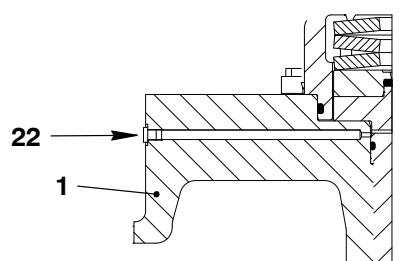

Fig. 11
- 1) Make sure that the oil bore to the valve guide (22, Fig. 11) is clear.